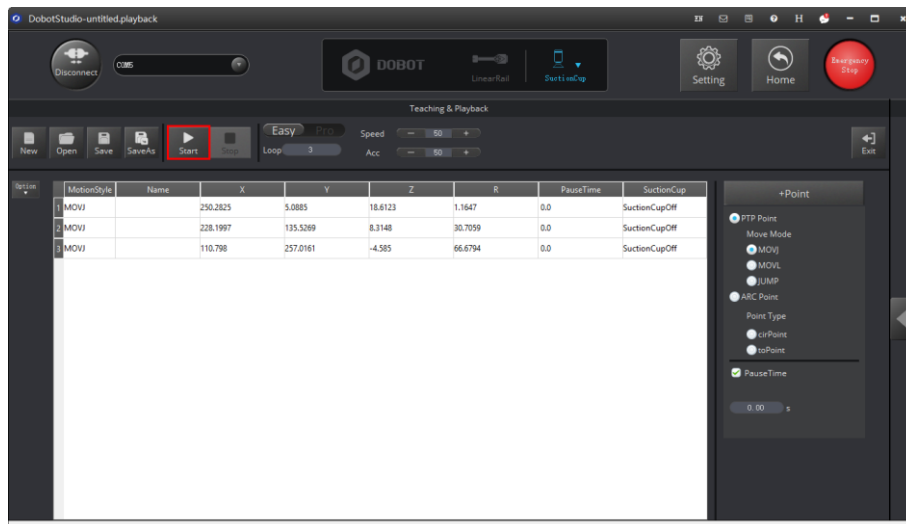

Figure 2.25 Click Start
- Click **Start** to perform the motions taught above, as shown in Figure 2.25.